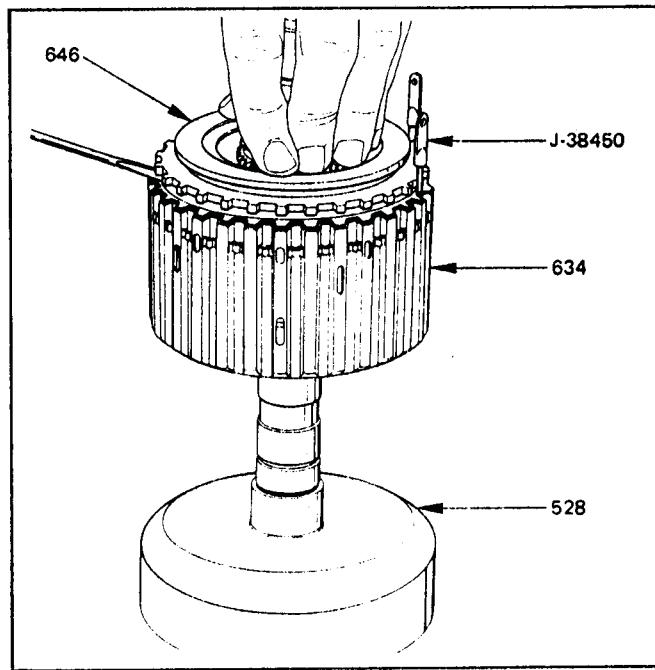

Figure 77
21. Install a tool blade at each end of the snap ring, between the snap ring and the 3rd clutch housing, as shown in Figure 77.
22. Compress the snap ring with a screw-driver opposite the tool blades while pushing down on the outer sprag race as shown in Figure 77.